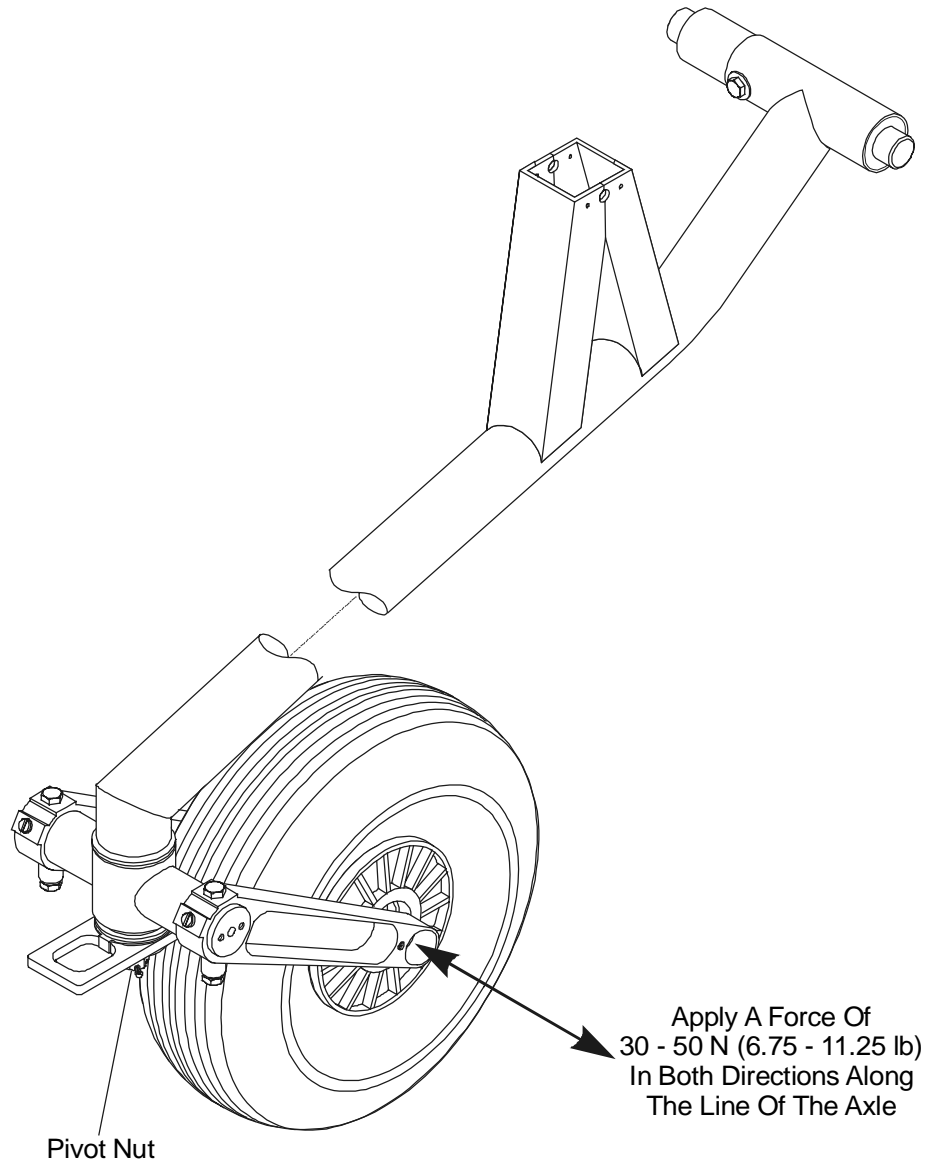

Figure 4
- 10.2.9** Tighten pivot nut until a Breakout Force of 30 – 50 N (6.75 – 11.25 lbs.) is achieved in both directions along the axis of the axle (Figure 4).